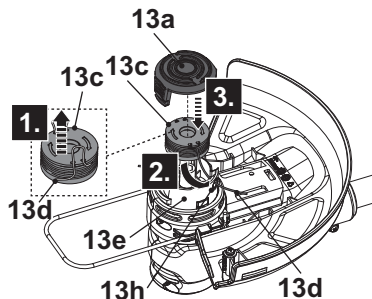

Fig. 25
6. Release the trimming line (13d) from the notches and hold it in position. Avoid the trimmer line (13d) scattered from the trimming spool (13c) (Fig. 25, Step 1).
7. Lead the trimming line (13d) ending through the eyelet (13h) of the housing (13e) (Fig. 25, Step 2).
8. Insert the trimming spool (13c) into the housing (13e) (Fig. 25, Step 3). Twist the trimming spool (13c) until it locks into place.